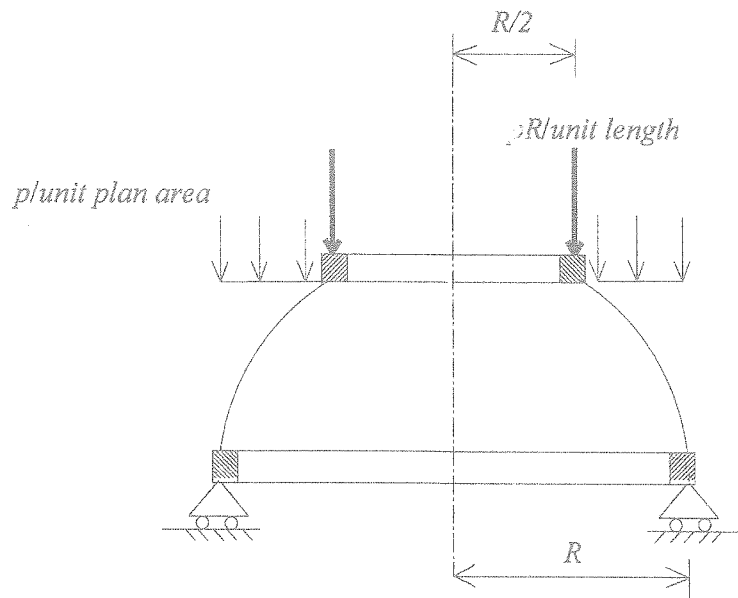

Figure Q5
- b) Determine the stress resultants in the spherical dome structure shown in Figure Q5.